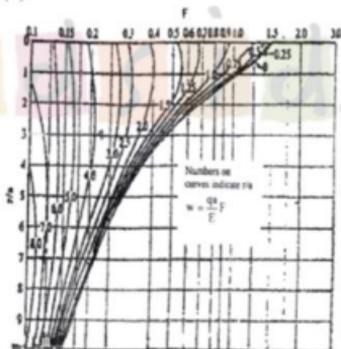

Fig. Q2(c)
- c. A dual wheel load assembly with 70 kN load on each wheel and contact pressure of  $0.7 \text{ N/mm}^2$  is applied on a homogeneous mass with moduli of elasticity  $12 \text{ N/mm}^2$ . If the centre to centre distance between the two wheels is 600 mm, determine the deflection value at a depth of 0.5 m at four points, at the centre of dual wheels, and at radial distances of 300, 600 and 900 mm from this centre along the line joining centers of the two wheel loads. Use deflection factor chart Fig. Q2(c). (08 Marks)